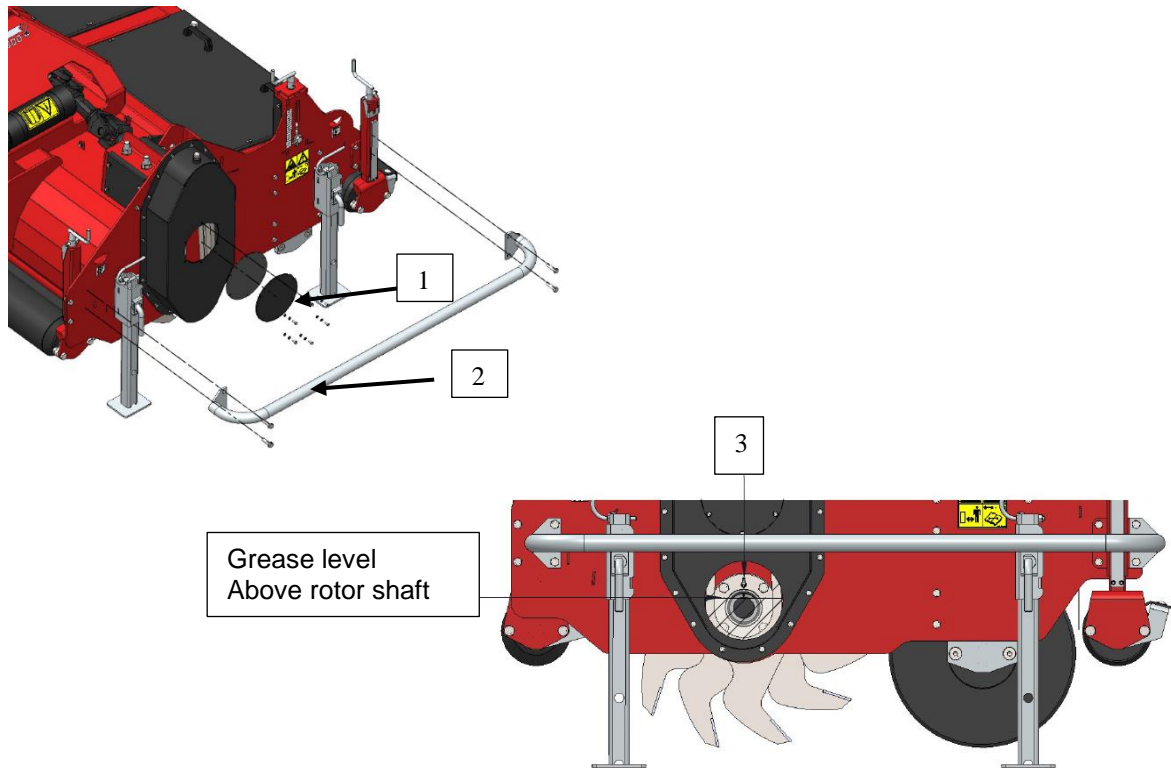

Fig. 16
2. Remove the protection bar (2) and access hatch (1) (fig. 16).
6. Fill the drive unit with EP 0 grease through the opening, up to the middle of the rotor shaft (total approx. 2.2 litres / 0.58 gal.) (fig. 16).
7. Refit the access hatch and rubber gasket (1).
8. Refit the protection bar (2).
1. Remove the protection bar **(2)** and access hatch **(1)** (**fig. 16**).
11. Refit the access hatch and rubber gasket **(1)** (**fig. 16**).
12. Refit the protection bar **(2)** (**fig. 16**).